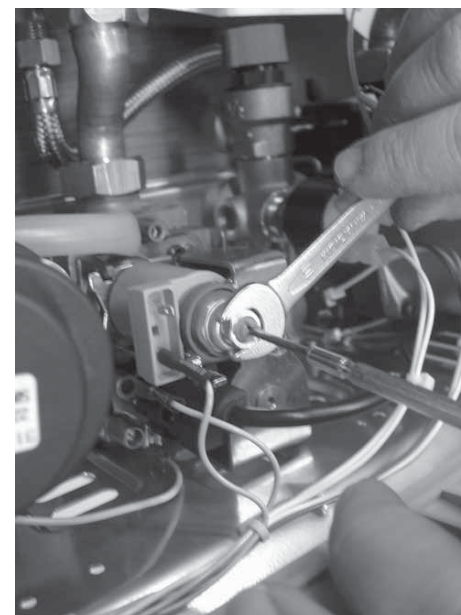

Figure 45
- Push the ball inside the modulating gas valve coil using a sharp pointed tool. (*figure 45*)